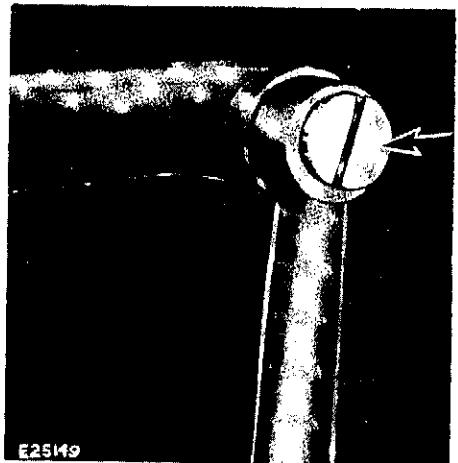

Fig. 158. Releasing Fork at Crank
3. Remove hinge screw **F9**, Fig. 158 from crank.
2. Set right end of fork into position at crank and tighten hinge screw **F9**, Fig. 158.